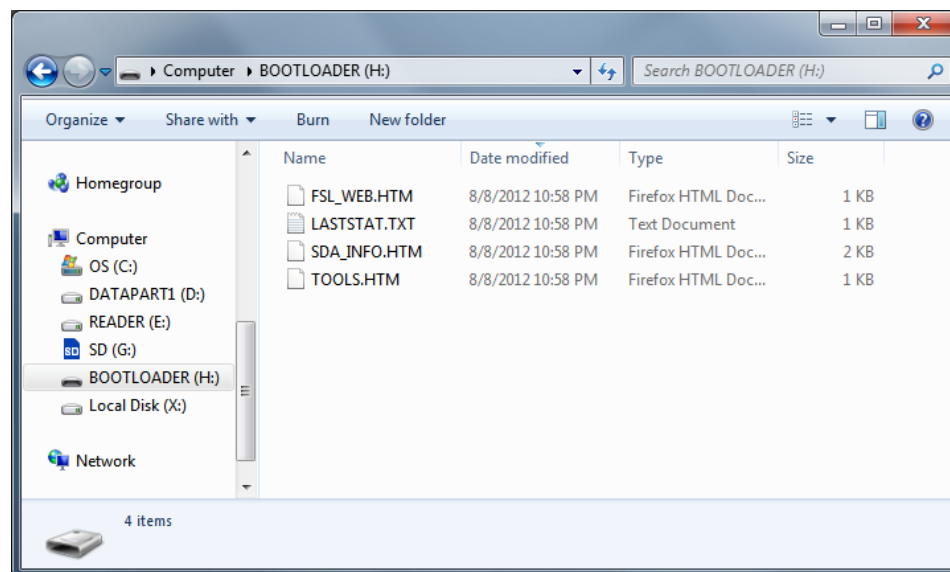

Figure 4 - BOOTLOADER drive
Step 5: In Windows Explorer, open the drive labeled BOOTLOADER. (Figure 4)
Step 8: In Windows Explorer, open the drive labeled BOOTLOADER. (Figure 4)